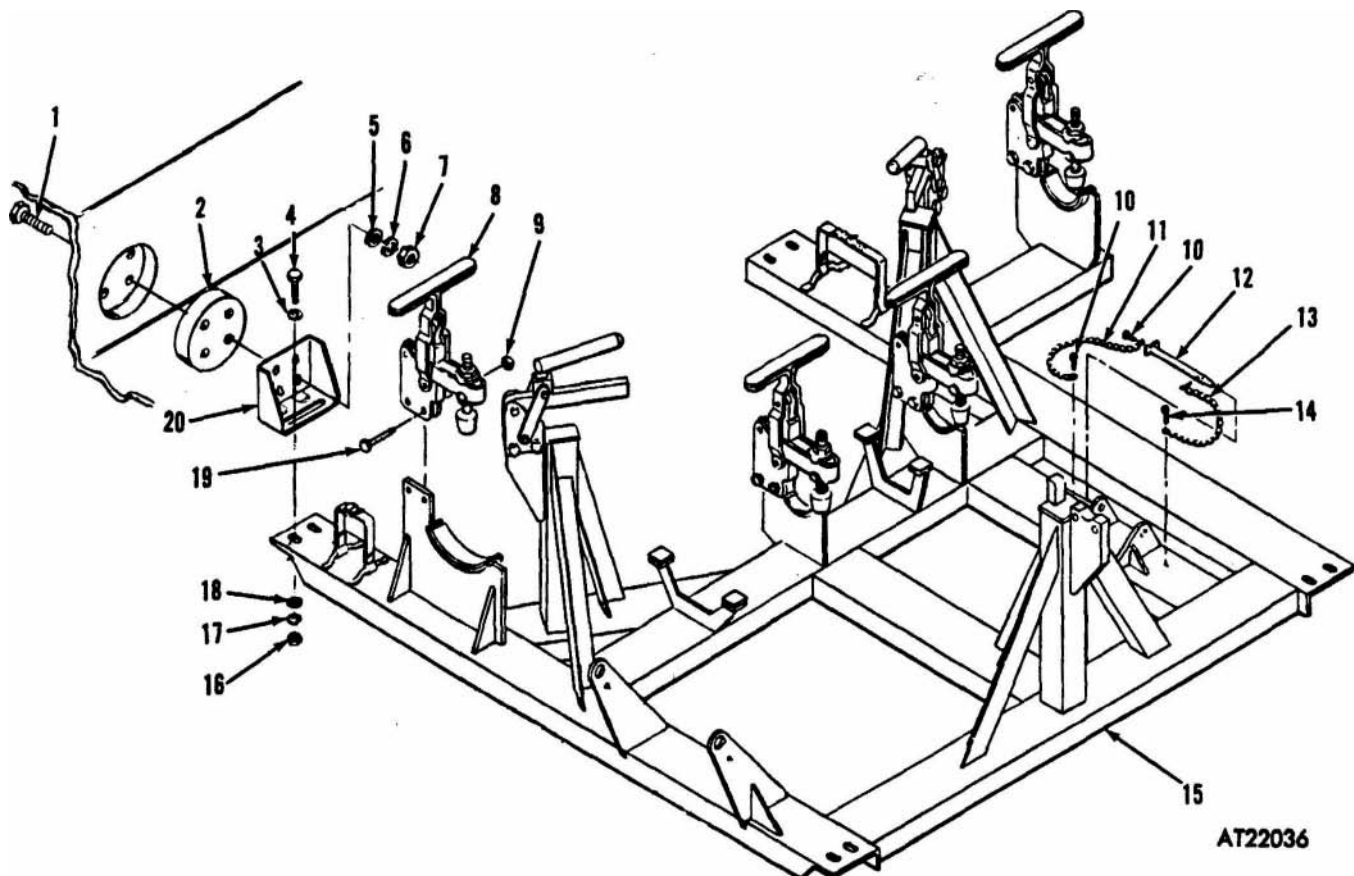

Figure 3-18. Frame assembly, installation.
(1) Connect brackets (20, fig 3-18) to frame assembly (15) and secure with screws (14), washers (3 and 18), lock washers (17), and nuts (16).
LEGEND to fig 3-18:
Disconnect frame assembly (15, fig 3-18) by removing screws (1), washers (5), lock washers (6), and nut (7). Remove frame assembly (15), and adapters (2) from carrier.
Position adapters (2, fig 3-18) in cargo tie-down positions and install frame assembly (15). Secure frame assembly (15) with screws (1), washers (5), lock washers (6), and nut (7).